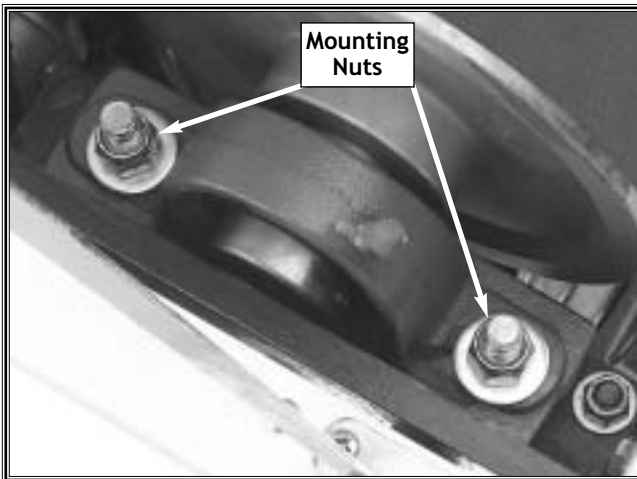

Figure 26. Rear bearing block and nuts.
6. Loosen the left bearing-block mounting nuts at the end of the rear drum just enough to slide the bearing block. See **Figure 26**.